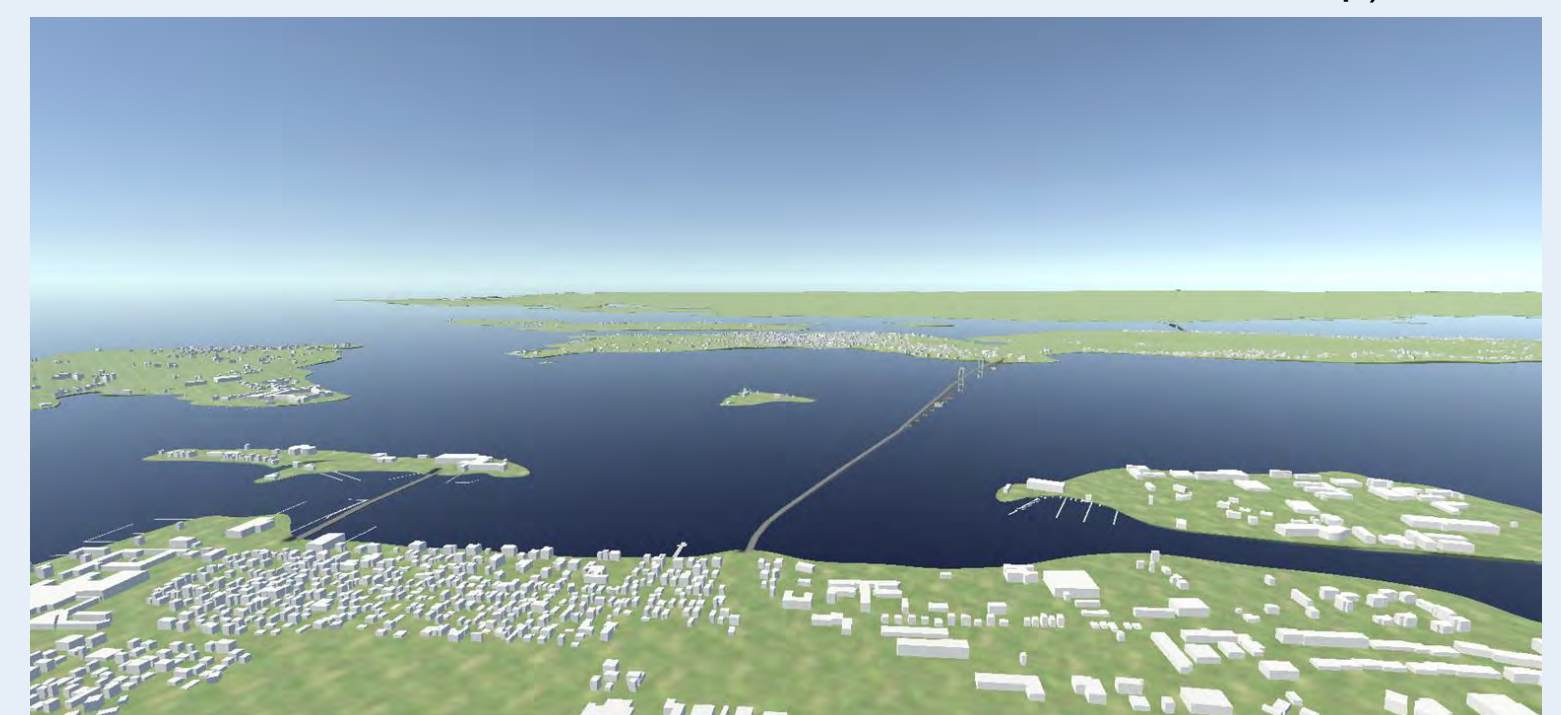

Fig. 3: Rhode Island 3D Model (Newport pictured)
- **Rhode Island Geography Models:** Used TouchTerrain to create a geography model of RI with elevation data, and purchased a separate model from cgtrader.com containing building assets. Combined both models, resulting in one model with accurate elevation data and buildings/port features to provide an accurate representation of the Rhode Island coast (**Fig 3**).